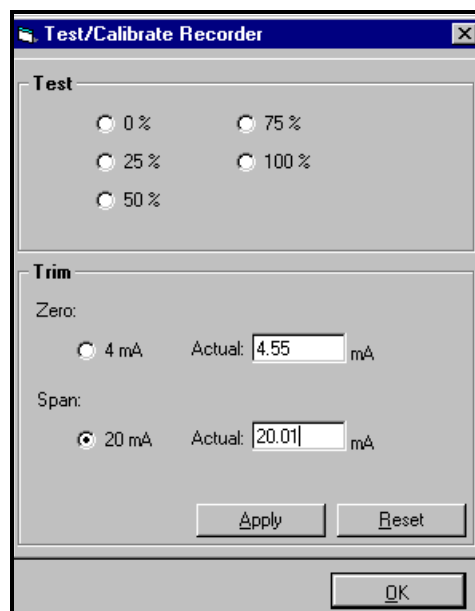

Figure 27: Test/Calibrate Recorder
3. The screen should now look similar to Figure 27 below. Click on the 4 mA option in the Trim section.